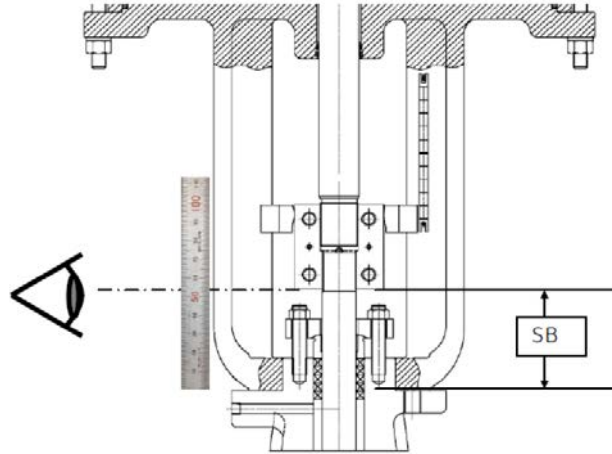

Figure 1 - Sighting the Split Clamp
5. Position the split clamp with the split clamp to bonnet (SB) gap as shown in Table 3 on page 10. If the split clamp does not properly engage with both stems, slightly extend the actuator stem until alignment and engagement is achieved (Figure 1).